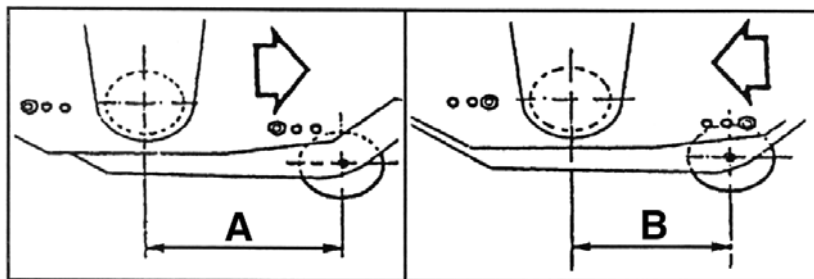

Fig. 7
1. There is also an adjustment that can be made on the roller to control mulch size and power needed. By moving the roller toward the cutting shaft (Fig. 7), a finer mulch is produced, requiring less H.P. In this case, we suggest opening the hatch to cut grass, vegetables, cornstalk, cotton, etc.
2. By moving the roller away from the cutting shaft (Fig. 7), a coarser mulch is produced, requiring more H.P. In this case, we suggest closing the hatch to mulch prunings.